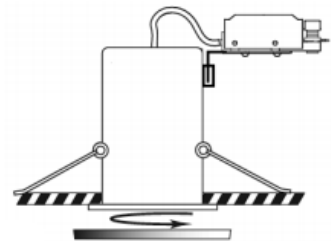

Fig. 5
- Ensuring all plaster and paintwork is dry, clip the lamp into the bezel, locate the bezel lugs into the body of the fitting and rotate clockwise until it locks into position (see Fig. 5)